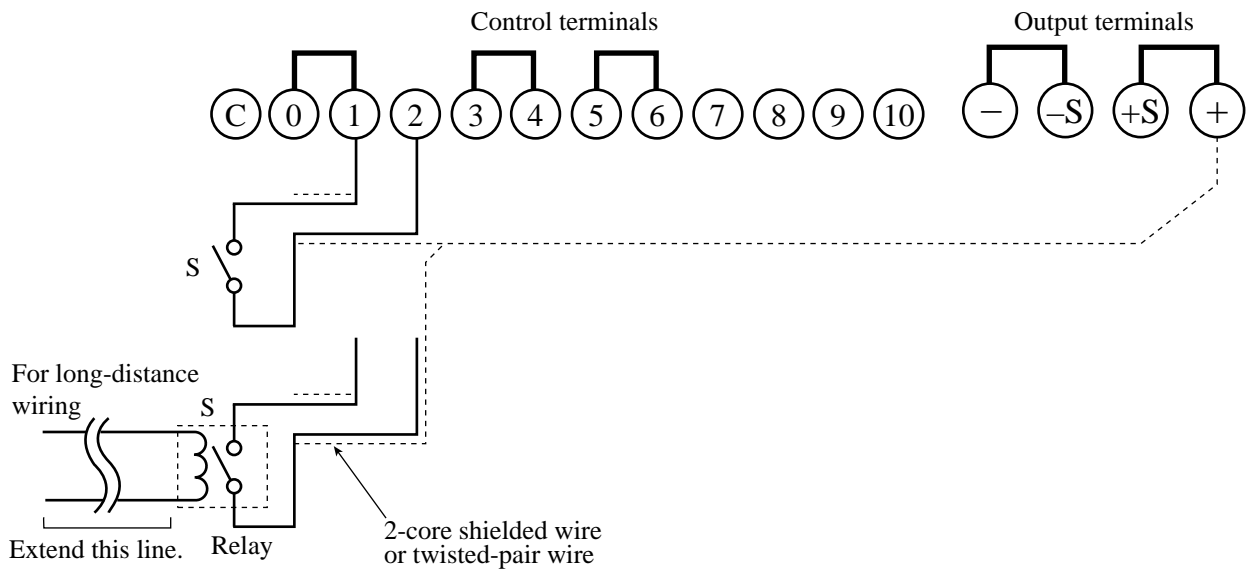

Fig. 4-9 Connection for output ON/OFF control (I)
2. Connect a contact S (switch) across the control terminal 1 and 2 as shown in Fig. 4-9.
- Isolate the external contact (S) and the cable connected to it with at least the isolation voltage of the unit. For details, see 2.6 "Grounding the output terminal."